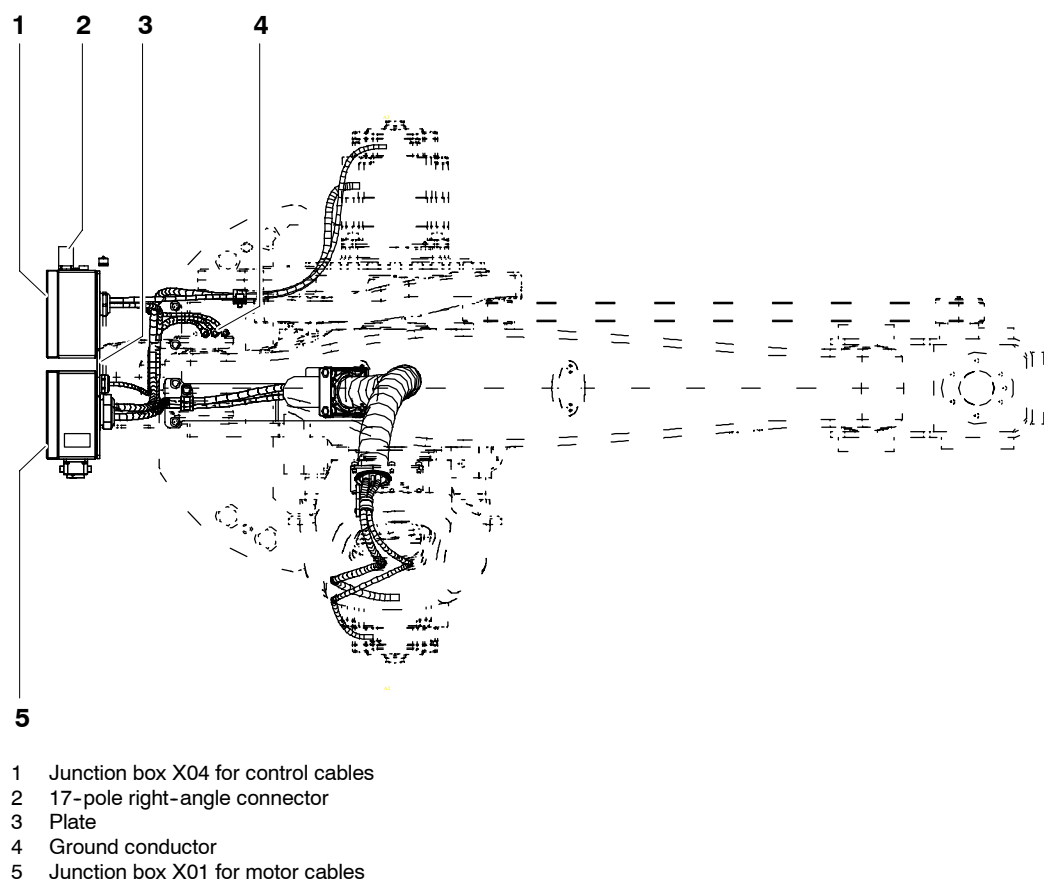

Fig. 49 Cable set assembly
The electrical installations of the robot form a separate assembly. It includes the “cable set” (Fig. 49), containing all the electric cables (Fig. 50 to Fig. 51). The cable set has plug-and-socket connections so that exchanges can be quickly carried out. This dispenses with the need for wiring work.
Installed on the base frame is the plate (Fig. 49/3) with two junction boxes (1, 5). The motor cables for axes 2 and 3 are grouped together in junction box X04 (5) and are wired up to a rectangular flange-mounted connector. This connector is at the same time the connector on the robot for the connecting cable (“motor cable”) between the robot and the control cabinet. The connector consists of four separate connector modules and two dummy modules. The connector modules are each assigned a particular motor connector (e.g. XM2). The ground conductors (3) are connected to a ground conductor rail (Fig. 56) in the junction box (5).
The control cables for axes 2 and 3 are grouped together in junction box X04 (Fig. 49/1) and are connected to an RDC board. Each control cable has a separate connector and can therefore be exchanged individually. The interface at the junction box (1) with the connecting cable (“data cable”) between the robot and the control cabinet is formed by a 17-pole right-angle connector (2).